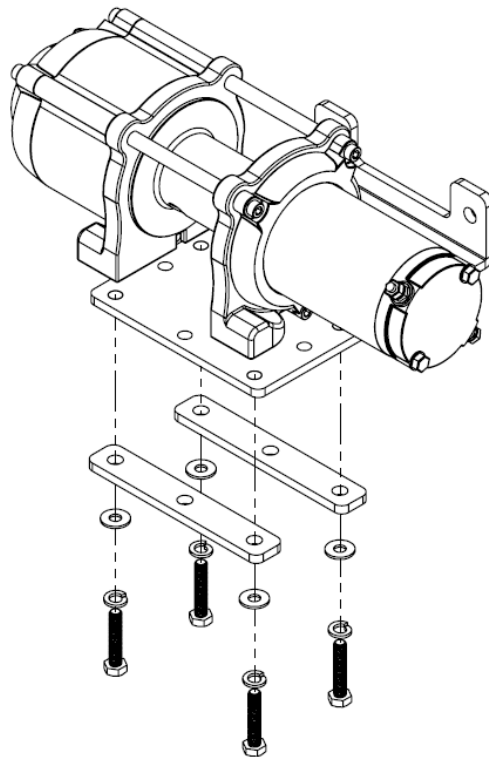

Figure 2
5. Place the winch into the winch cavity, aligning the holes from the winch with the holes in the machine and the MA11981-2 Mounting Spacers, and the MA11981-1 Main Mounting Bracket as shown in Figure 2.